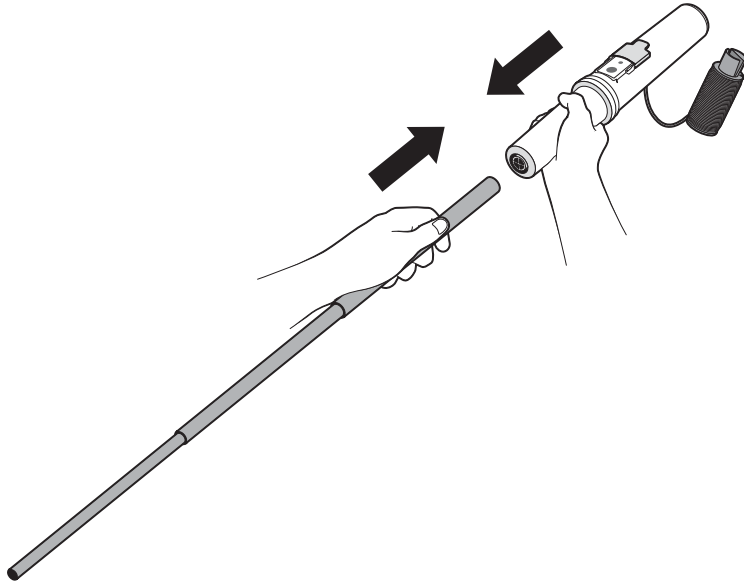

Figure 9 Attaching the telescopic mounting pole to the AIS SART
- Push the larger end of the telescopic mounting pole into the socket on the base of the AIS SART as indicated in Figure 9.